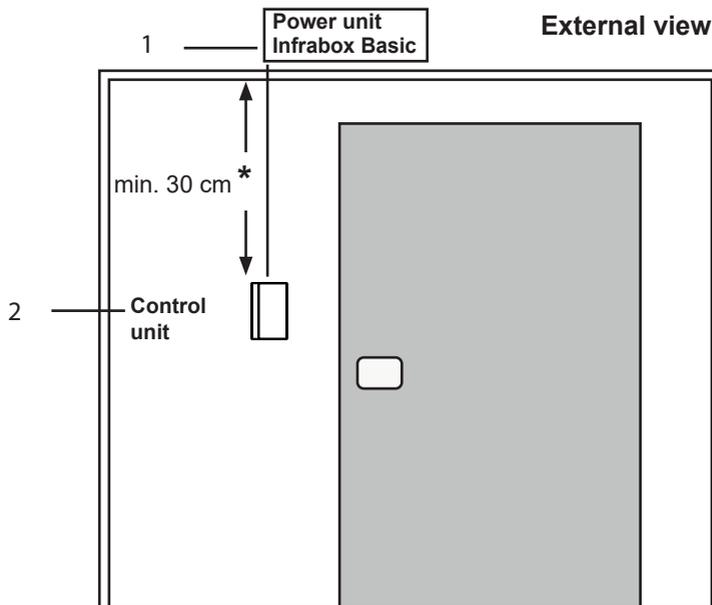

Fig. 2 Control panel position
The control unit 2 of the infrared controller is installed on the outside wall of the cabin with a maximum clearance of 10 metres from the power supply unit 1 (see Fig. 2). For the installation, a standard jigsaw is required to cut out the recess for the control unit. The operating unit can be installed both inside and outside the cabin.
*For installation inside a sauna cabin, maintain a distance of at least 30 cm to the ceiling. (see Fig. 2 Control panel position on page 12).